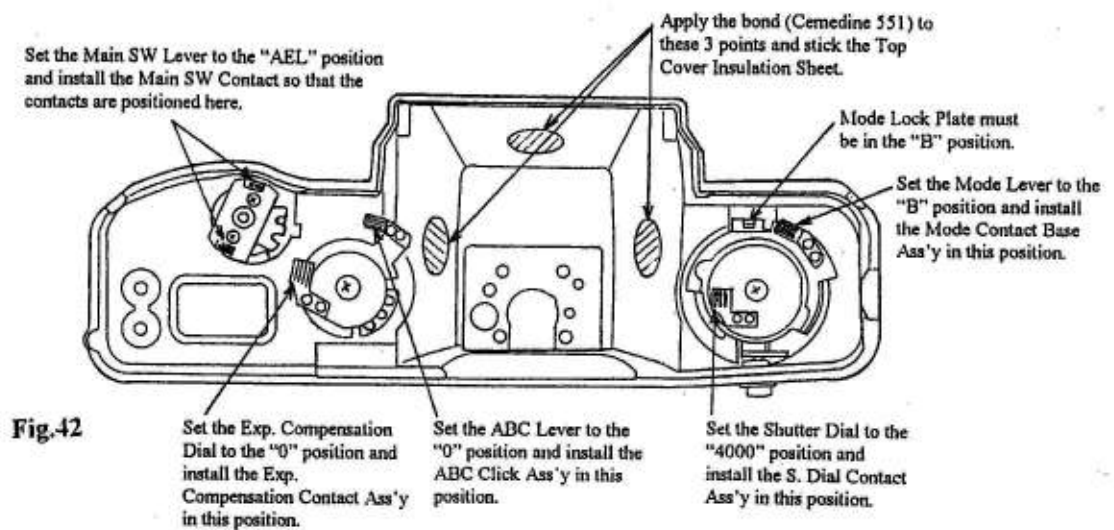

Fig.42
* Install the switch contacts of the Top Cover in the positions as shown in Fig. 42.